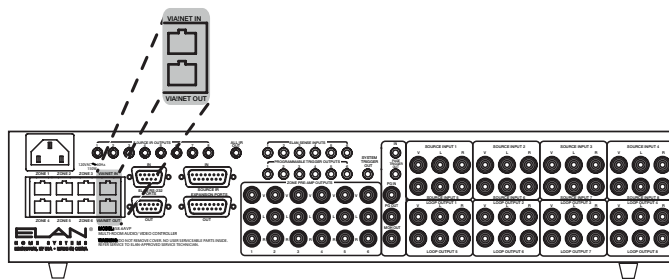

Figure 1-22. VIA!NET In/Out
The VIA!NET IN and OUT Ports (15) connect auxiliary S8.6 chassis and allows VIA!Net Port communication with other ELAN components such as the V883 Component Video Matrix Switcher (see **Figure 1-22**).